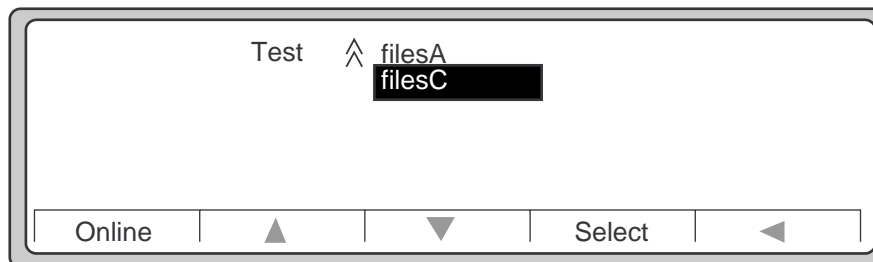

Figure 6-4 Test Submenu
3. Use ▼ to scroll down and highlight filesC, as shown in Figure 6-4, and press Select.